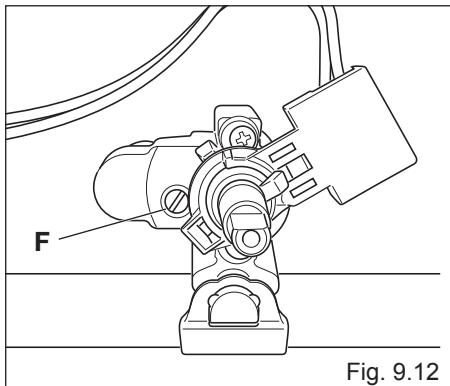

Fig. 9.12
- With a thin screwdriver turn the screw "F" until adjustment is correct (fig. 9.12).